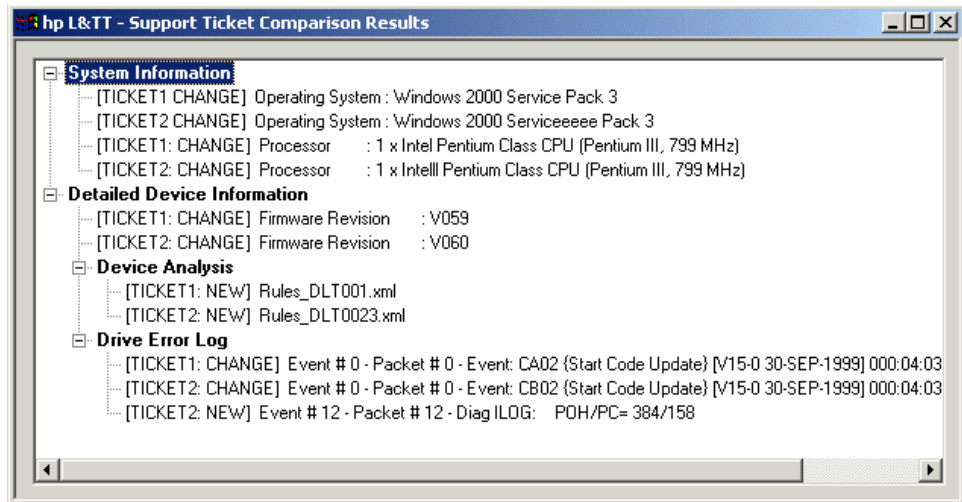

Figure 24: Support ticket comparison results
3. Select the support ticket to which you want to compare and click **Open**. The comparison results are displayed in a separate window as shown in Figure 24.